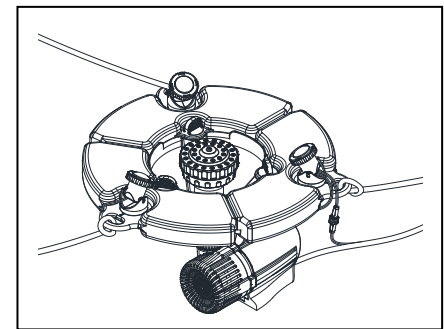

Fig. 6
- Use knife cut 3pcs tether Line, line length depend on you lake size, attach one side of line to each of the three loops Fig. 6